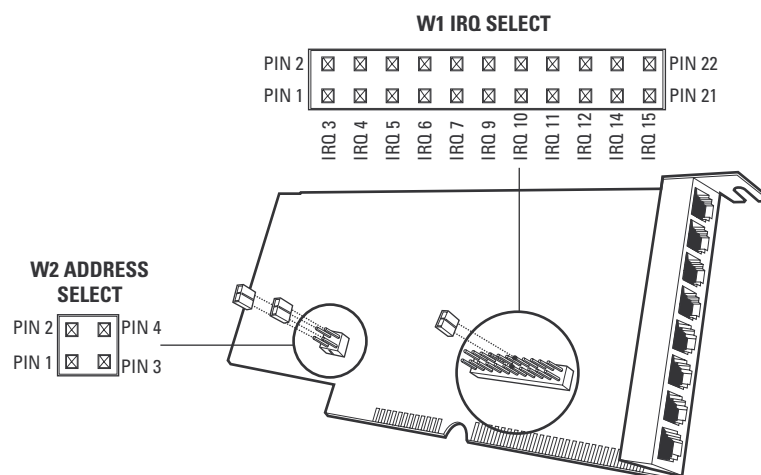

Figure 39. SER Card Jumper Assignments
3. Set the W1 interrupt (IRQ) and W2 address select jumpers on the SER card. Refer to Figure 39.